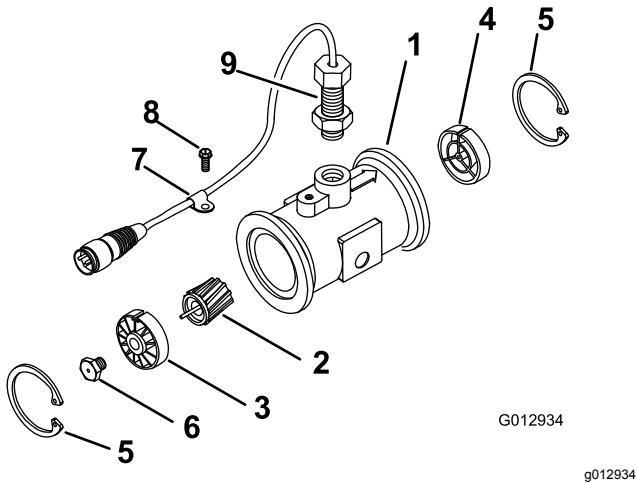

Figure 47
3. Remove the retainer ring on the upstream side (Figure 47).